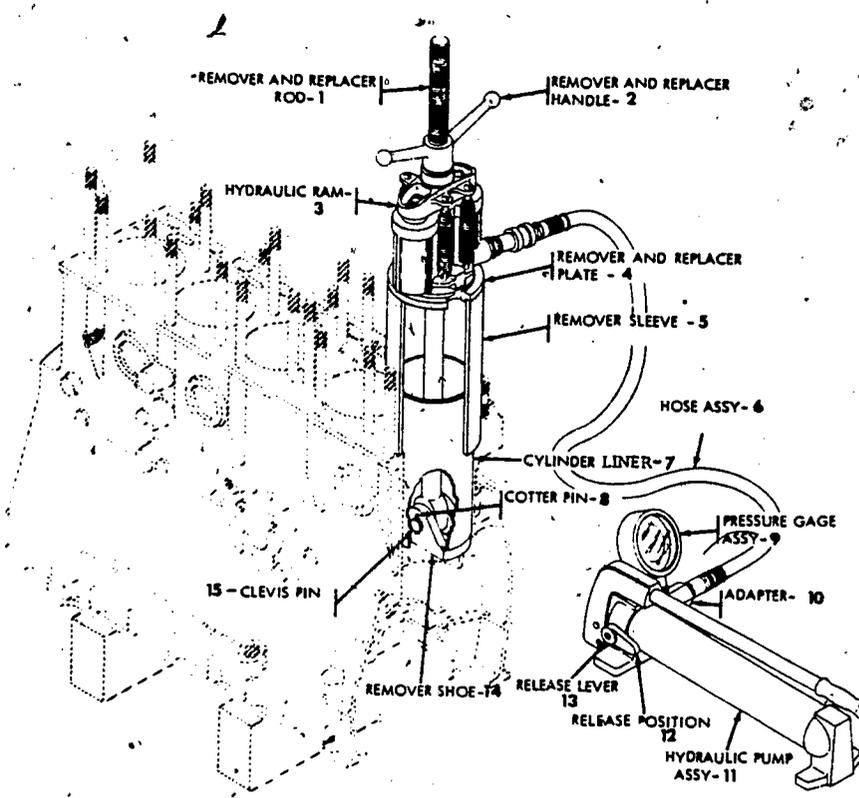

Fig 5-7. Cylinder liner remover and replacer kit showing position of shoe against liner during liner removal (sectional view).
To remove the defective liner (fig 5-7) (numbers in parens refer to fig 5-7), use the procedure outlined below. Assemble the remover and replacer rod (1) and remover shoe (14) and secure the clevis pin (15) and cotter pin (8). Insert the rod up through the cylinder liner, from the bottom of the crankcase, until the shoe seats in the bottom of the liner. With an assistant holding the rod and shoe in position, position the remover sleeve (5) over the liner to be removed.
Remove the cotter pin (8), the clevis pin (15), and the remover shoe (14), shown in figure 5-7, from the remover and replacer rod (1).
Caution: The pressure gage attached to the pump indicates pressure exerted for cylinder liner installation. If indicator needle moves into "danger zone" (red area), stop pumping action immediately and investigate the cause. If cylinder liner cannot be installed without the indicator needle entering the danger zone, remove the liner as directed in figure 5-7. Repeat the installation procedure using a different liner.